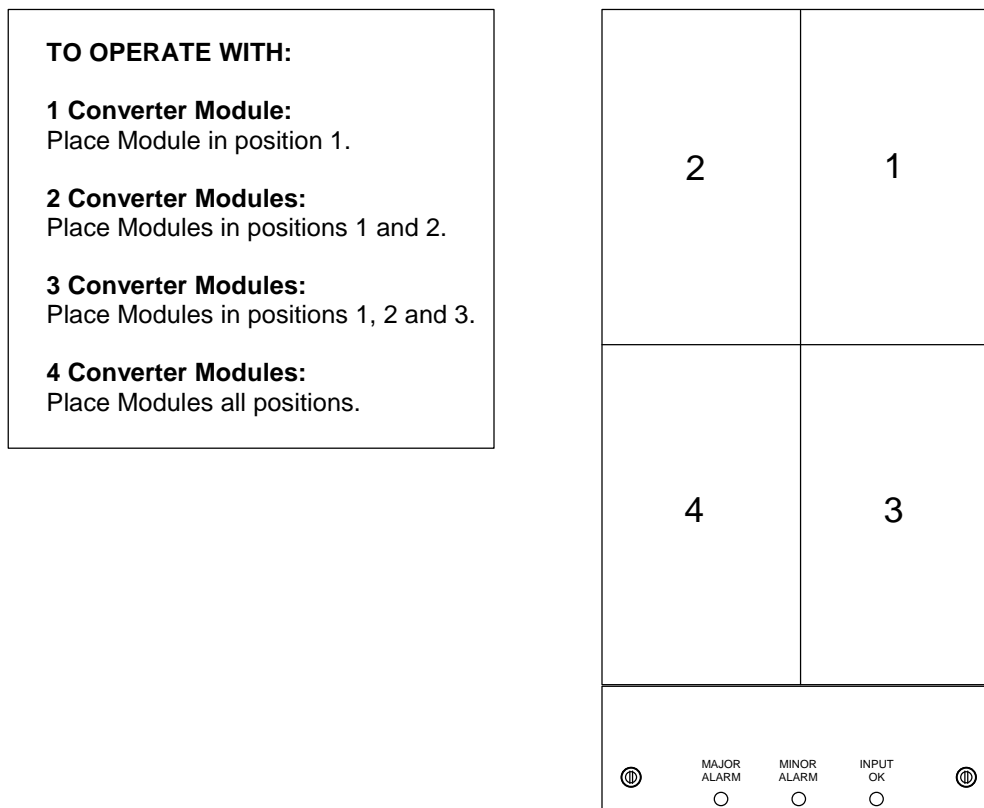

Figure 3-3
- 2) Refer to Figure 3-3 for the required mounting positions for operations with 1-4 Converter Modules.
- 3) Slide each Converter Module into a mounting position in the DC-DC Converter Mounting Frame as shown in Figure 3-3. Secure it to the frame by tightening the captive fastener located on the front panel.